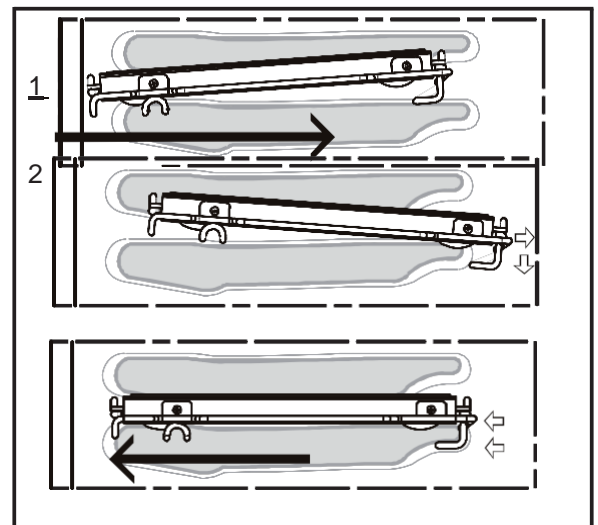

Fig. 7
**To replace an extendable rack (see Fig. 7):**